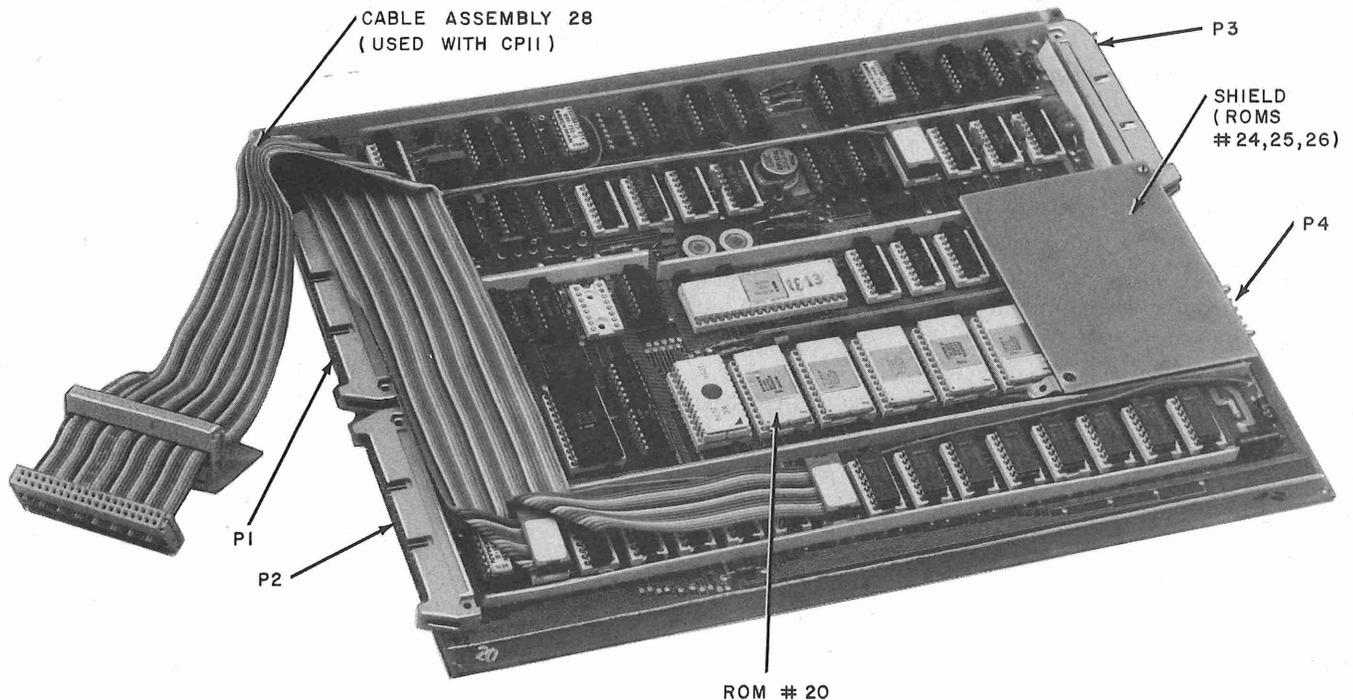

Fig. 8—Circuit Pack CP1 Showing Cable Assembly 28 and ROM Shield
- (2) Orient CP1 so that connectors P1 and P2 are to the left as shown in Fig. 8.
Note: Figure 8 is an illustration of a Version 2 or 3 CP1 (cable assembly group 28 required and shown).
- (3) Remove shield if ROM 24, 25, or 26 is to be replaced as shown in Fig. 8.